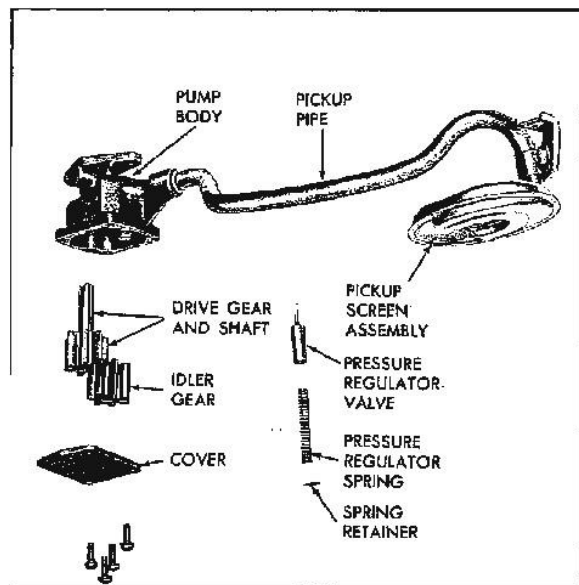

Fig. 6-49 Oil Pump - Exploded View
3. Remove 4 cover attaching screws, cover, gasket, idler gear and drive gear and shaft (Fig. 6-49).